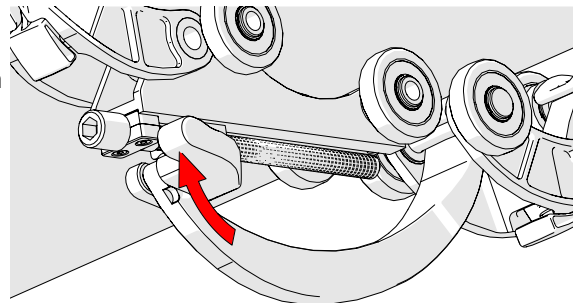

Fig. 197 - Press lever down to lock
12. Rotate the buckle adjustment knob until the buckle's lever can be pushed down locking the buckle in place (Fig. 197).